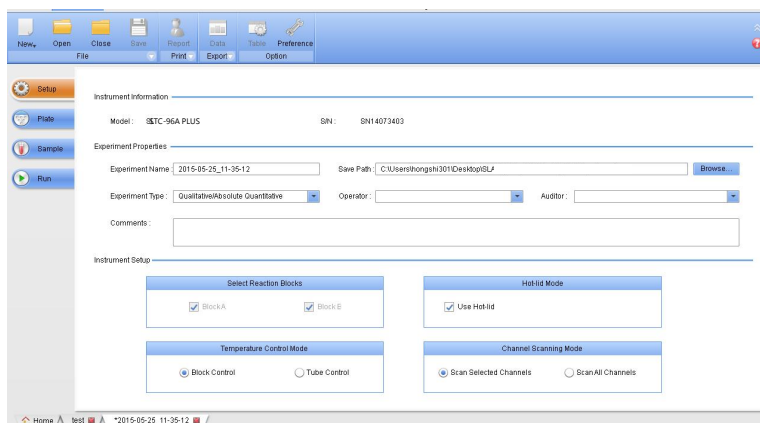

Fig 4- 17
- ▶ If there are two or more instruments connected to your computer, the following dialog box (Fig 4- 18) pops up after clicking. Select an instrument to be used from the list, click **Confirm** button to enter the interface of experiment wizard.